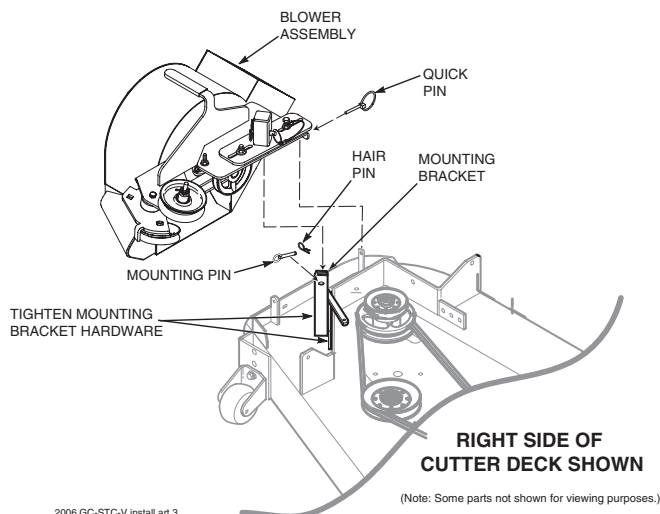

Figure 2-5. Blower Installation
10. Install the blower assembly to the mounting bracket and secure with the mounting pin. See Figure 2-5.
11. Align the blower assembly with the discharge opening of the cutter deck. Tighten the hardware for the mounting bracket. See Figure 2-5.
12. Install the quick pin through the rear hole in the discharge chute mounting bracket. See Figure 2-5.